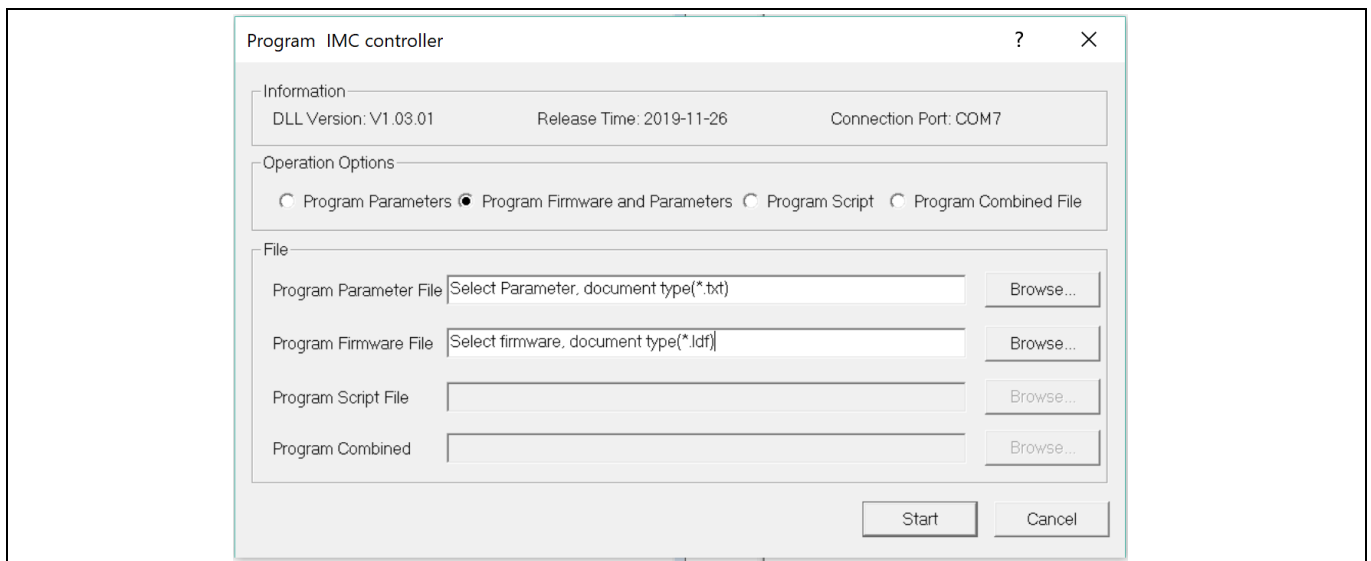

Figure 7 Program the parameters and firmware
5. Use the following steps to program the firmware and the parameters' file into the internal Flash memory of iMOTION™ Control IC: click on system page, click “Tools” > “Programmer” and select “Program Firmware and Parameters,” shown as in Figure 7 below. The encrypted firmware is available at “IMD111T MCE Software Package;” regarding the parameters file, browse and select the '.txt' file in the section 2.1.2.